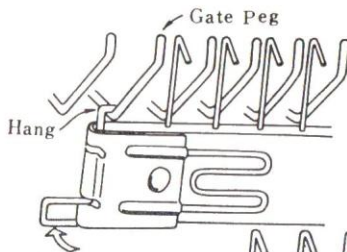

Fig. 8
- 3) Place hooks between pegs of needle bed as far as possible. (See Fig.8)